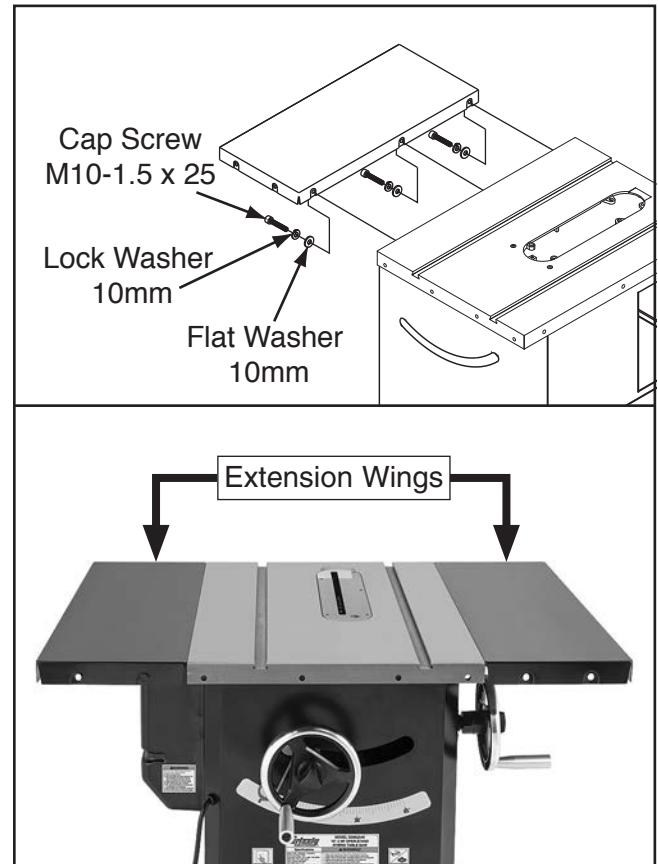

Figure 17. Extension wings installed.
- With another person to hold wings in place, attach each extension wing to main table using (3) M10-1.5 x 25 cap screws, 10mm lock washers, and 10mm flat washers (see **Figure 17**).